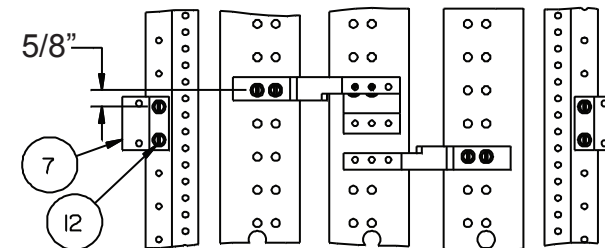

Figure 5
6. Refer to Figure 5: Mount the QR mounting brackets (Item 7) next. Locate a 0.228" diameter hole on the left Z-rail 5/8" below the mounting screws of the A-phase strap. Insert one 1/4"-20 x 3/8" screw (Item 12) through the 0.312" diameter hole in the QR mounting bracket and then into the hole in the Z-rail and tighten. Orient the QR mounting bracket as shown, insert another 1/4"-20 x 3/8" screw through the second 0.312" diameter hole in the QR mounting bracket and then into a 0.228" diameter hole in the Z-rail and tighten. Repeat the same steps to install the second QR mounting bracket onto the right hand Z-rail directly across from the first one. Torque all screws as specified on the rear of the deadfront.